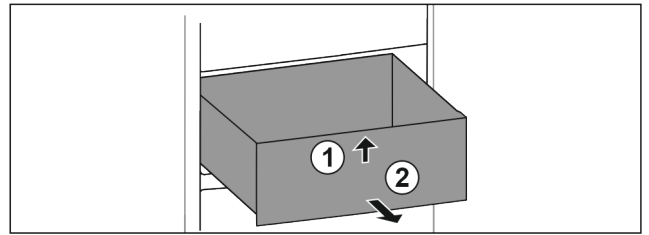

Fig. 27
- ▶ Lift up drawer at the front. Fig. 27 (1)
- ▶ Remove drawer to the front. Fig. 27 (2)